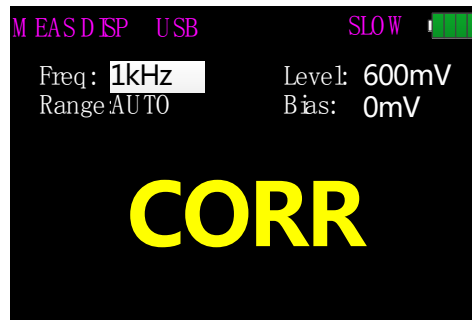

Figure 11
1. Before entering the correction function, please ensure that the test terminals are open- or short-circuited. Press **▲NULL** to enter the correction interface, then the instrument automatically identify whether it is open or short circuit as shown in Figure 11;